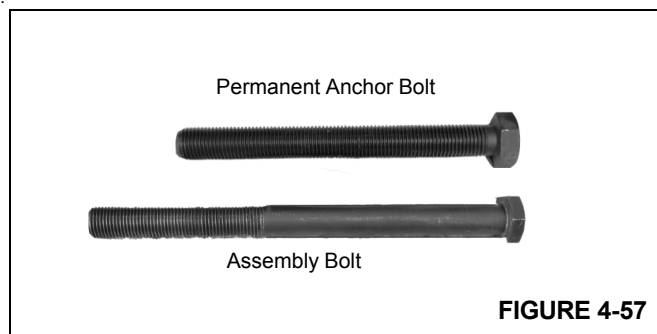

FIGURE 4-57
21. Install adjusting bolt (Figure 4-57) to the anchor assembly.